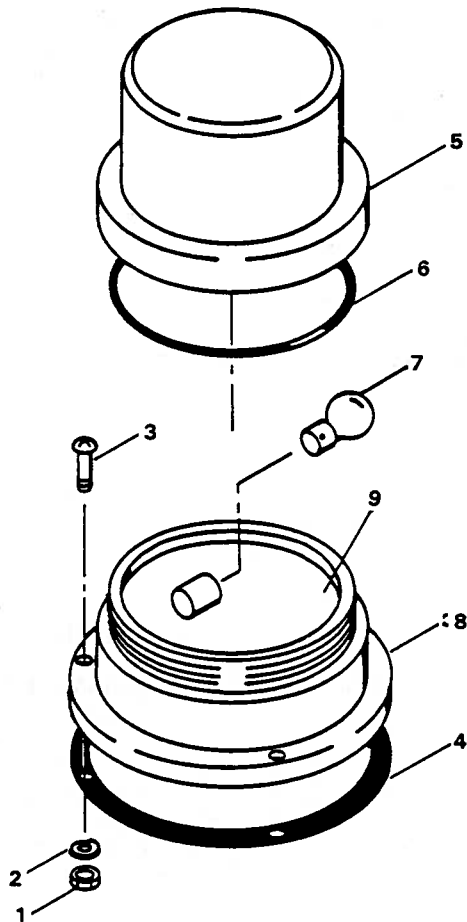

Figure 5-16. Beacon Light Assembly
5-22. REMOVAL. (See figure 5-16.)
- a. Remove nuts (1, figure 5-16), lockwashers (2) and screws (3).
5-23. DISASSEMBLY. (See figure 5-16.)
- a. Remove base gasket (4, figure 5-16) from base (8).
- b. Remove lens (5) from beacon light.
- c. Remove lens gasket (6) from lens (5).
- d. Remove bulb (7) from power supply (9).